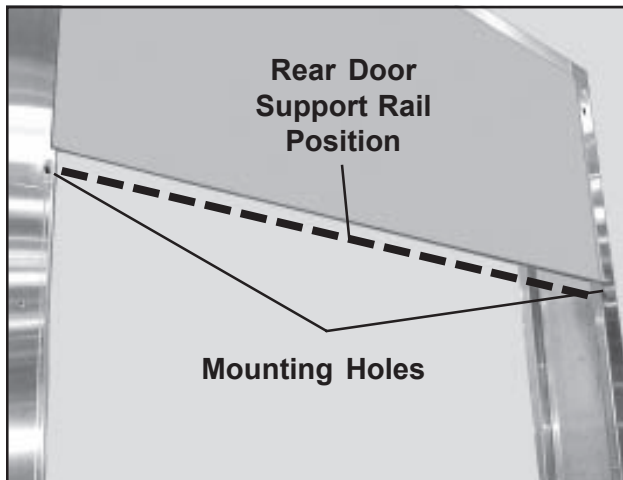

Figure 18. Mounting Position for Rear Door Support Rail
1. Hold the rear door support rail in place on the rear of both columns and below the rear top panel (Figure 18).